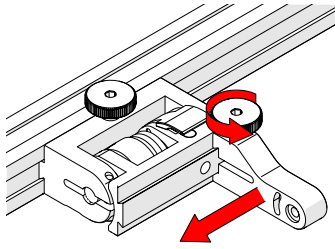

Fig. 150 - Position swing arm
5. Loosen the swing arm knob and slide the swing arm to the opposite end of the probe holder bracket (*Fig. 150*) or preferred position. Tighten the swing arm knob.